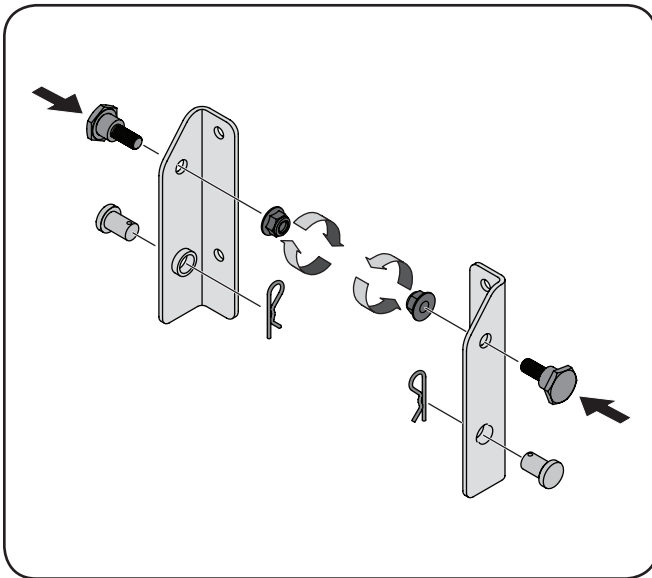
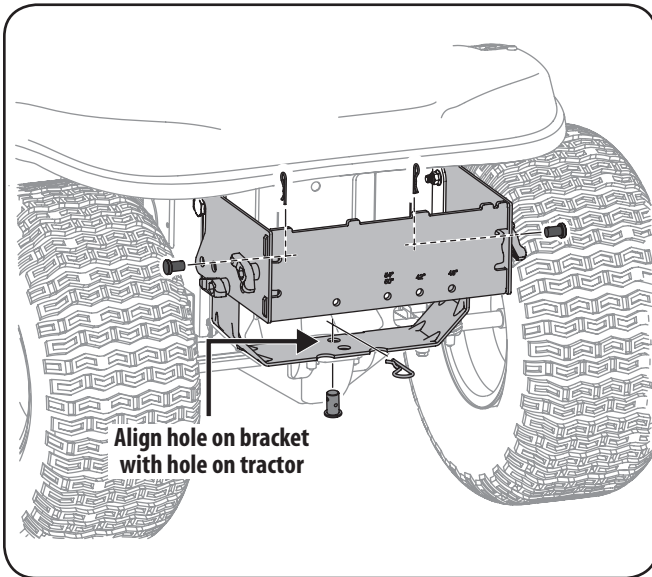

Figure 4-1
Figure 4-7
1. Install a shoulder bolt from your hardware pack on each bracket, securing them with flange lock nuts also included in the hardware pack. Refer to Figure 4-1.
2. Insert the clevis pins from your hardware pack on each bracket, securing them with clip pins also included in the hardware pack. Refer to Figure 4-1.
NOTE: Install two clevis pins through the mounting assembly and secure to the 700 series mounting brackets installed earlier with click pins provided with the model 700 mounting kit. Refer back to Figure 4-1 and see Figure 4-7 below.